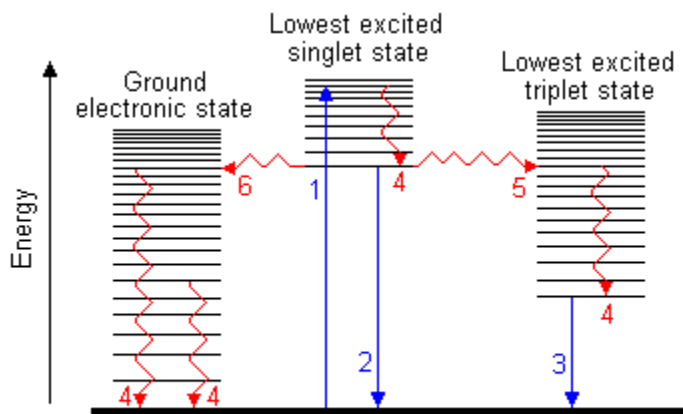

Figure 1
4. From Jablonsky diagram (Figure 1), describe the electron transitions.